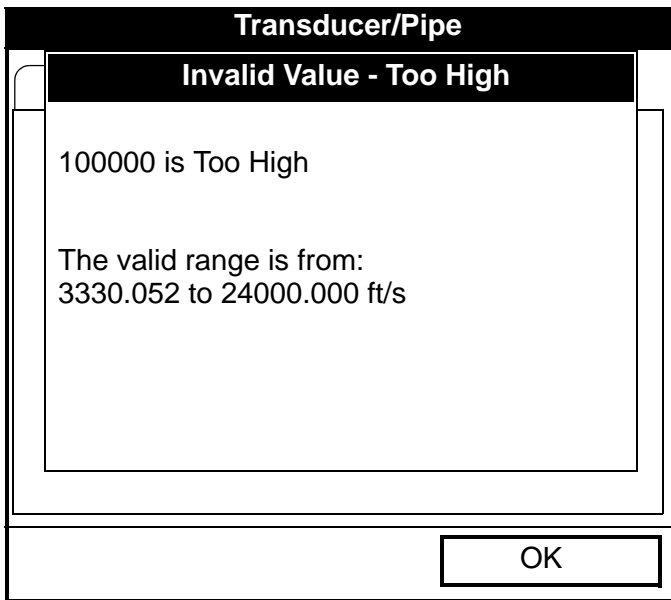

Figure 16: Soundspeed Error Message Window
Note: *If the “Other” Pipe soundspeed entered is too large, given the previously entered Wedge soundspeed and angles, an error message similar to Figure 16 below will appear. Press [F3] (OK) (the error message disappears), and enter another soundspeed within the range specified.*